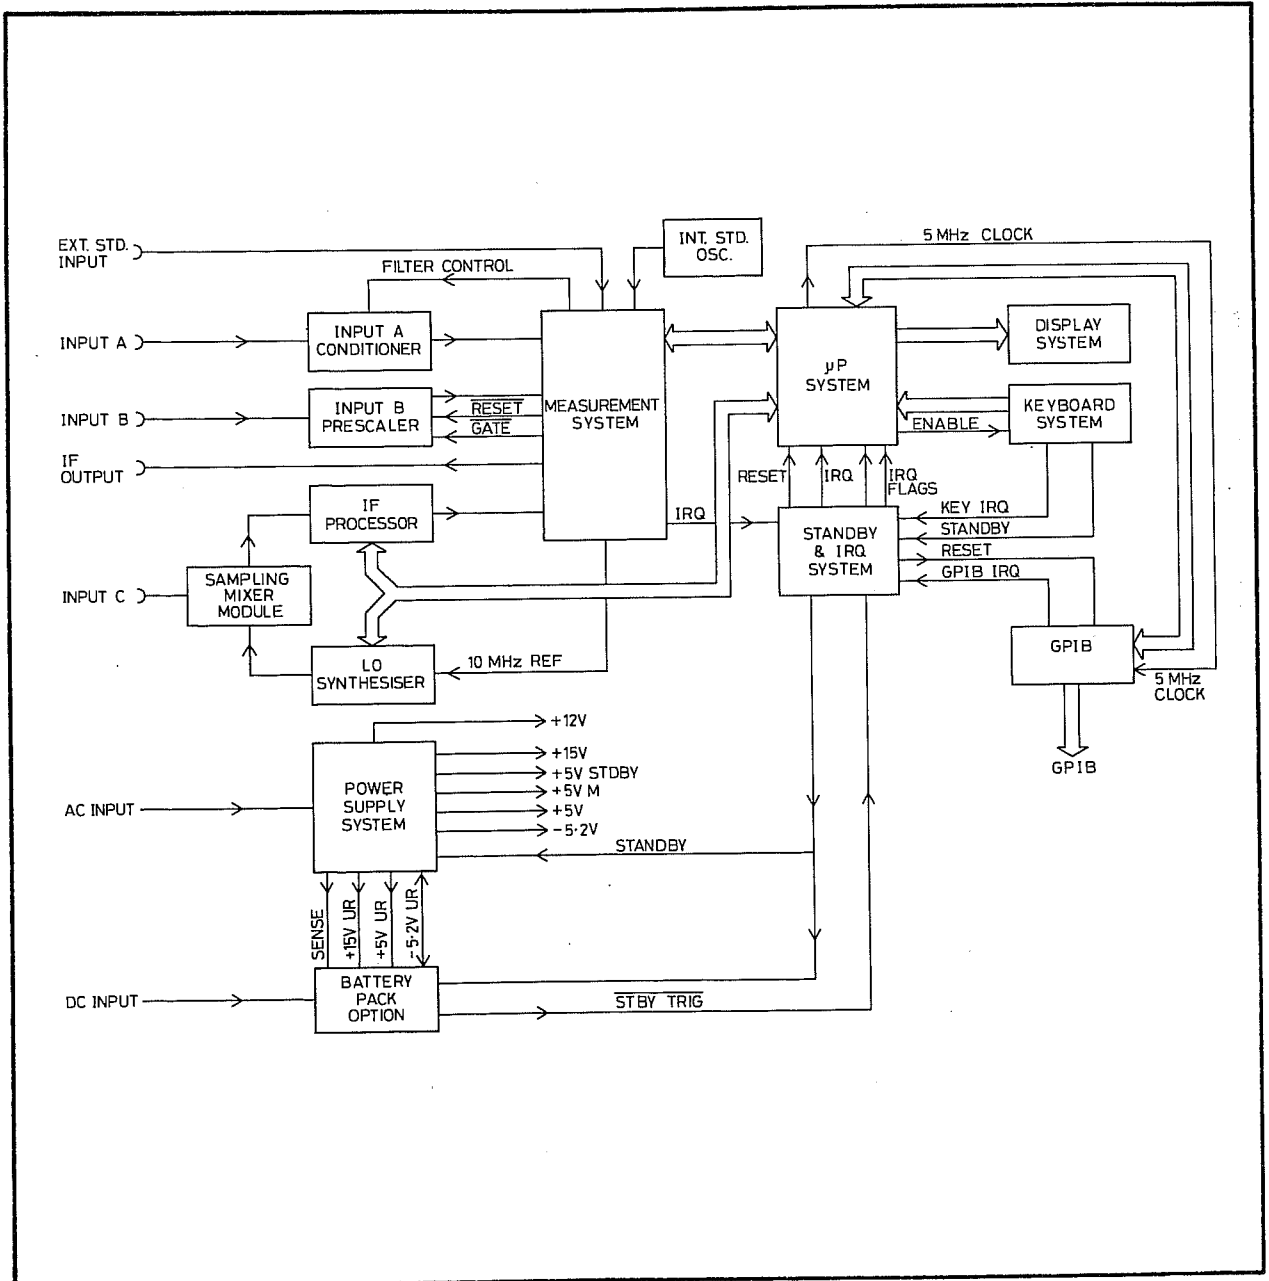

Fig. 6.1 Functional Block Diagram
- (1) The Channel A System.
- (2) The Channel B System.
- (3) The Channel C System.
- (4) The Measurement System.
- (5) The Display System.
- (6) The Keyboard System.
- (7) The Microprocessor System.
- (8) The Standby and IRQ System.
- (9) The Power Supply System.
- (10) The Internal Frequency Standard System.
- 4 The functional relationship between the systems is illustrated in Fig. 6.1. The measurement system is internally configured by the microprocessor system according to the instructions entered via the keyboard or GPIB system. The signal to be measured and the signal from the frequency standard are fed to the measurement system. The measured result is passed to the microprocessor system. If mathematical manipulation of the result is required, this is performed by the microprocessor before the final output is passed to the display or GPIB system.